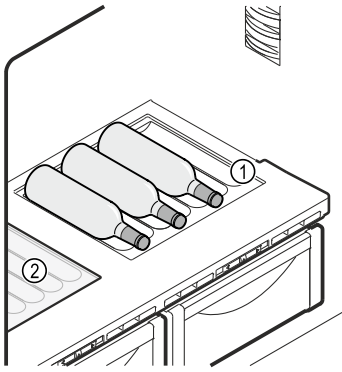

Fig. 128 Example illustration
- Insert the glass shelf Fig. 128 (2) under the variable bottle rack.